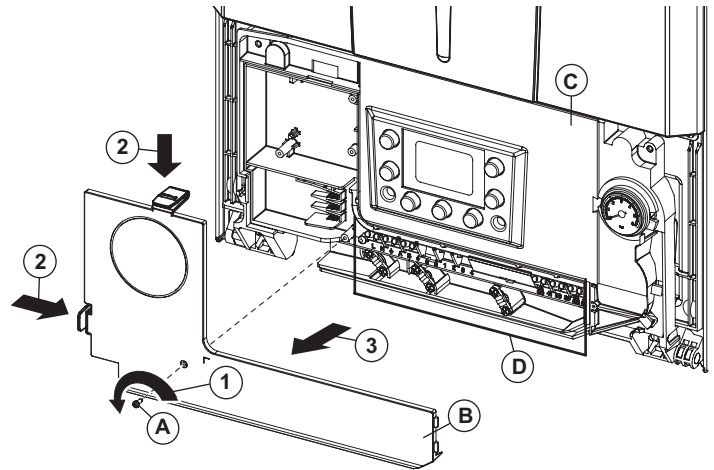

Fig. 4.14
#### 4.10 CONNECT THE MAINS SUPPLY - Figs. 4.14 and 4.15
1. Remove the one screw 'A' in Fig. 4.14.